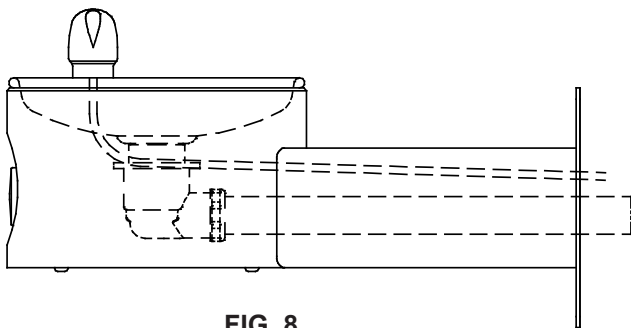

FIG. 8
4. Connect water line from fountain bubbler into freeze resistant box. The connection to the box uses a quick connect water fitting. Position the water line, in the fountain, to drain back into interior mounted box. Any water left standing, in the exterior line, can freeze. See Fig. 8.